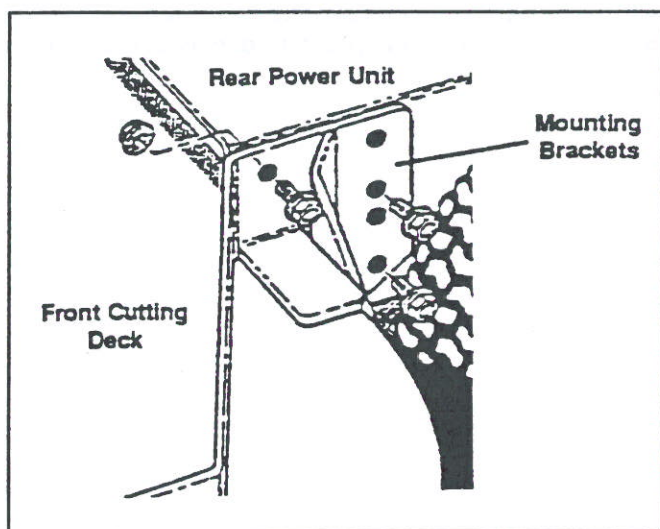

Figure 1
### FRONT CUTTING DECK & REAR POWER UNIT ASSEMBLY (Figure 1):
4. Utilizing a second person, roll the rear power unit (See note below) up to the front cutting deck and position it so that the mounting holes of both units are in alignment with one another. See "Cutting Height Adjustment" (Page 14) for correct hole selection. Insert three (3) 1/2" bolts through each side of the cutting deck mounting brackets and rear power unit (Figure 1) and torque to 95 ft. lbs (129 NM) utilizing the supplied 1/2" flange nuts.